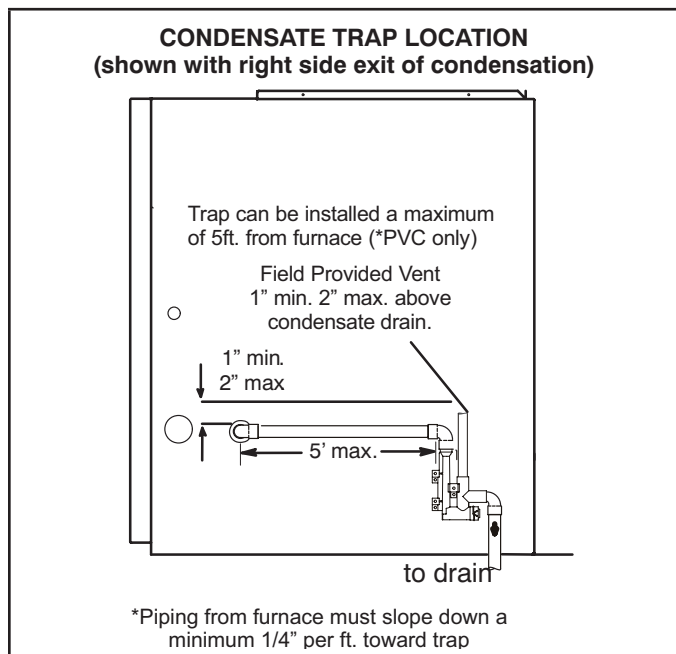

**FIGURE 37**
This unit is designed for either right- or left-side exit of condensate piping. Refer to FIGURE 37 and FIGURE 38 for condensate trap locations.
- 2 - Use a large flat head screw driver or a 1/2" drive socket extension and remove plug (FIGURE 37) from the cold end header box at the appropriate location on the side of the unit. Install provided 3/4 NPT street elbow fitting into cold end header box. Use Teflon tape or appropriate pipe dope